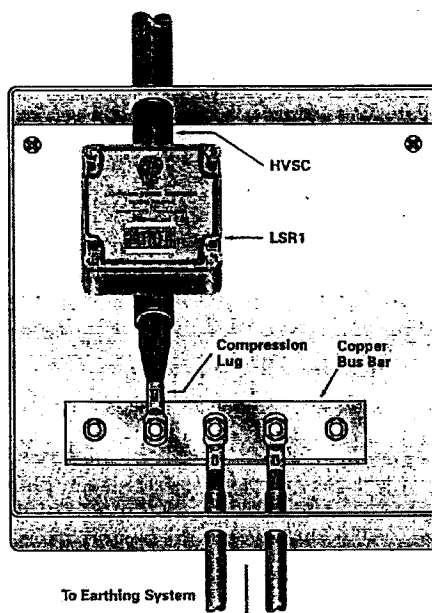

Figure 20.
6. If terminating the lower end of the HVSC to a bus bar, bunch together both inner and outer screen conductors, crimp them together in the 95mm² crimp lug provided using a compression or mechanical crimping tool and connect the bus bar as per Figure 20.